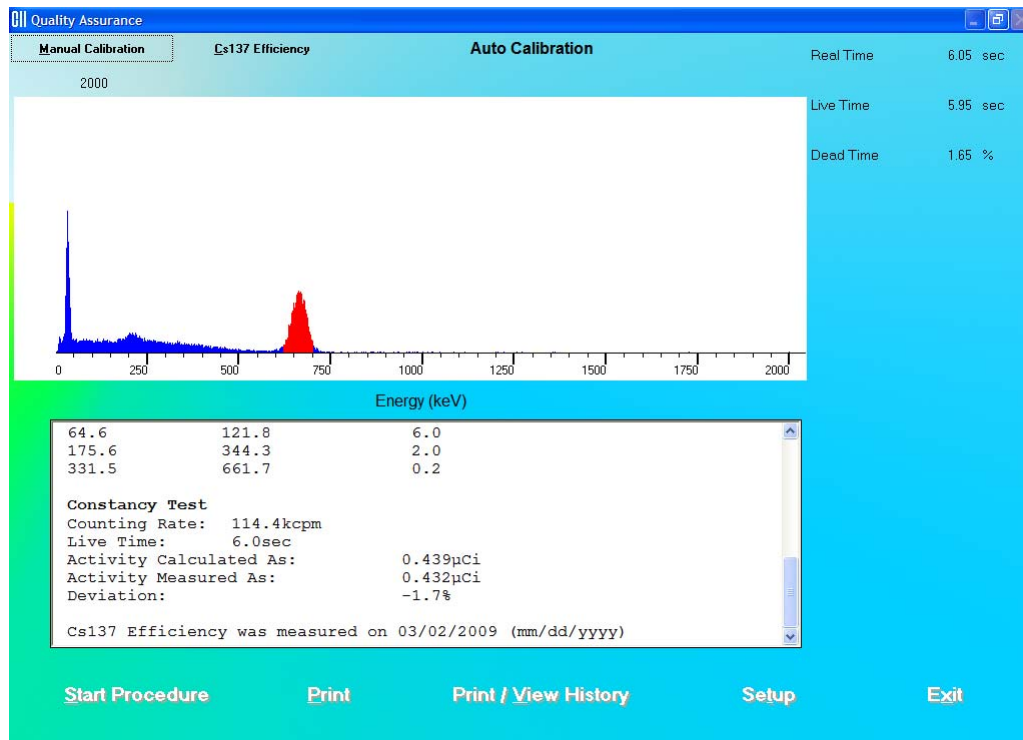

Figure 5-10
14. After the test is completed, the results of the test appear in the box below as shown in Figure 5-10. Note the Deviation value at the bottom.